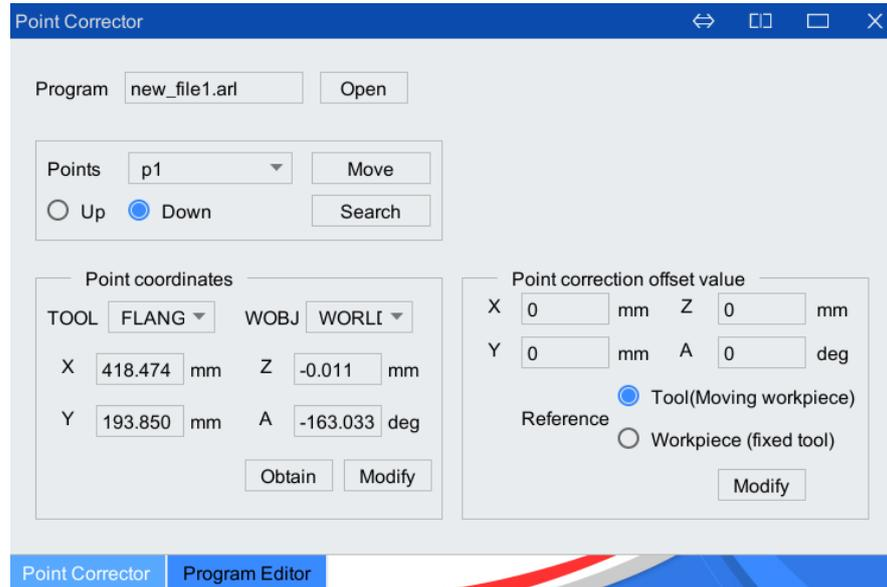

Figure 5-74 Modify the point coordinates through the "Point Correction Offset Value" area box
the current point is offset relative to the workpiece coordinate system. The offset value only supports the input of position data XYZ, as shown in Figure 5-74 shown.
Step1. Select the point you want to move to in "Point List" in Figure 5-74.